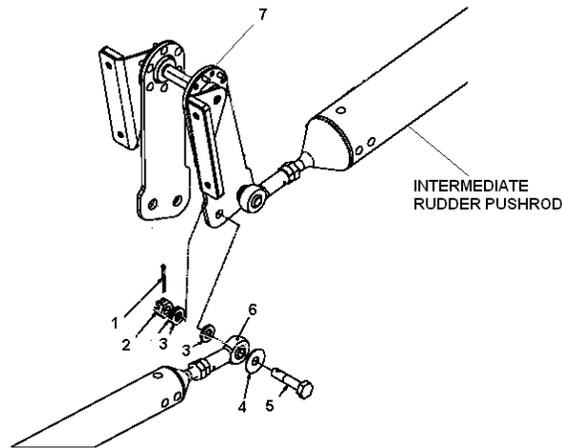

Figure 27-28 Disconnecting Fwd. Rudder Pushrod
4. Refer to Figure 27-28. Remove split pin (1) and discard. Remove the nut (2), washers (3 and 4), and bolt (5) from idler plate (6) and separate intermediate rudder pushrod from idler-plate.